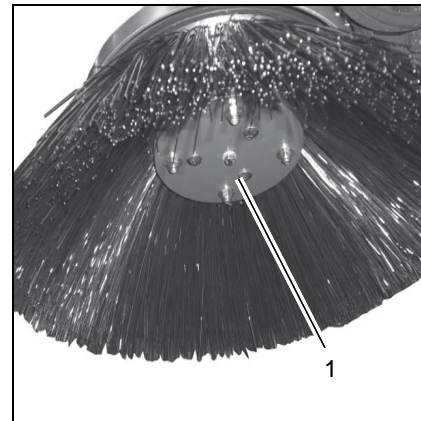

Fig.14
- Loosen hexagonal nut (Fig. 14/1) below the side broom.